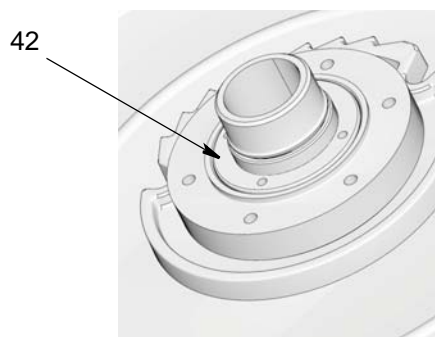

FIG. 19
- b. Use a spanner wrench to remove bearing retainer (42) nut. Once it is loose you can use your hand to unscrew and remove it (FIG. 19).